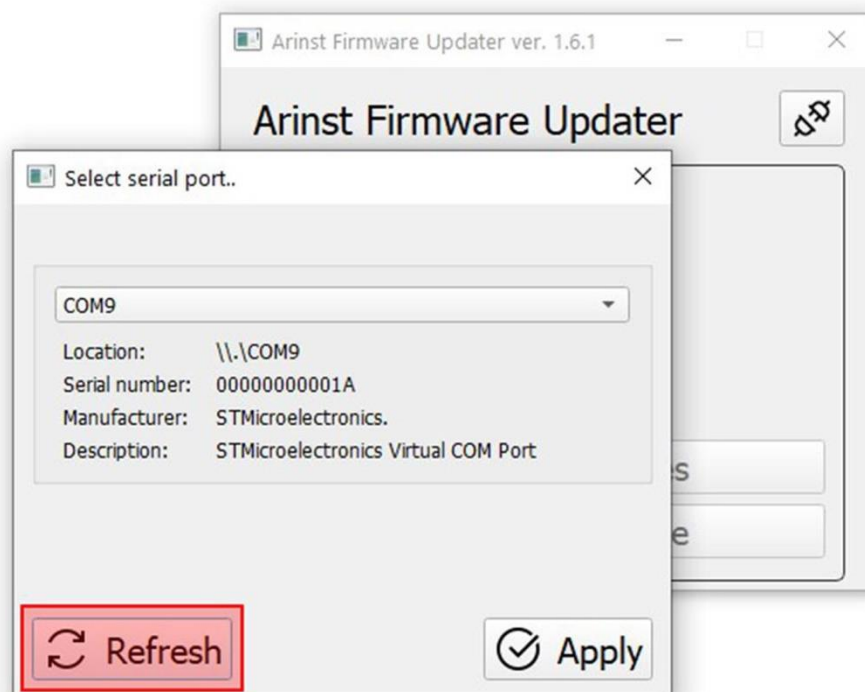

Figure A2.3 – Update the list of virtual PC ports
2.5. If the required port is not in the list of virtual ports, click the **Refresh** button, as shown in Figure A2.3.